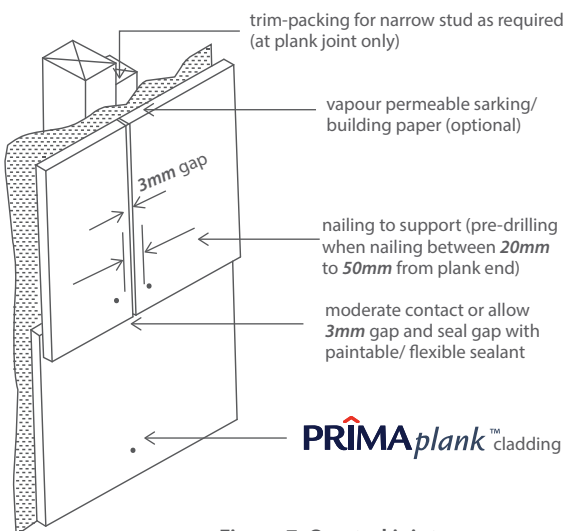

Figure 7: On-stud joint
**On-stud jointing** can be done by **butt jointing** plank ends with moderate contact. Alternatively, provide a nominal **3mm** gap and seal joint with exterior grade paintable/ flexible sealant. Refer **Figure 7**.